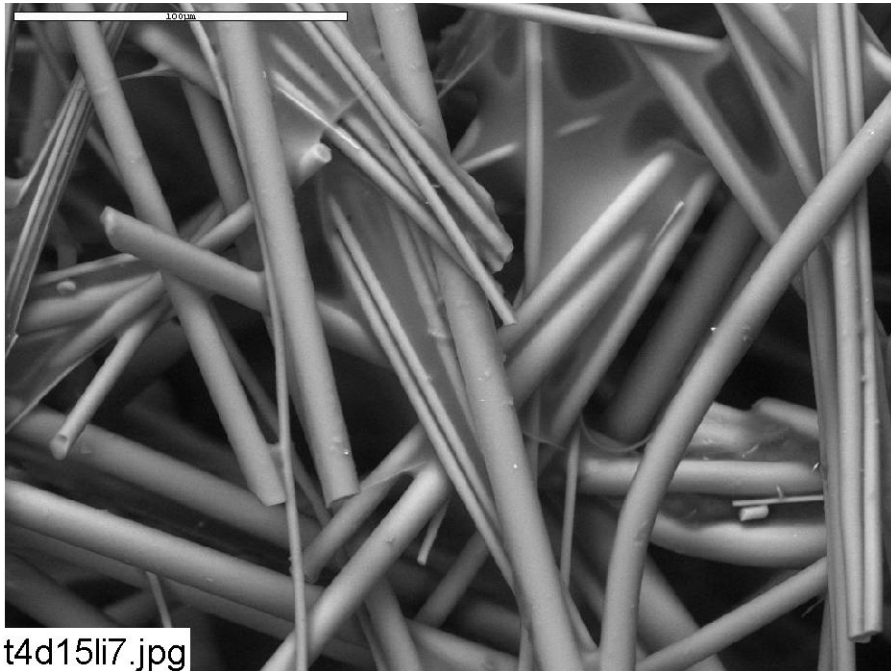

Figure B1-6. Environmental SEM image magnified 500 times for a Test #4, Day-15 interior low-flow fiberglass sample. (t4d15li7.jpg)
- Figure B1-6. Environmental SEM image magnified 500 times for a Test #4, Day-15 interior low-flow fiberglass sample. (t4d15li7.jpg) B1-6
| | t4d15li7 | 500 × | ESEM image of fiberglass | Figure B1-6 |